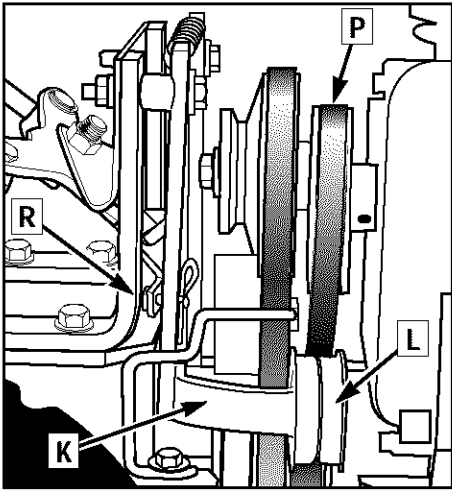

Figure 5-13
2. Stand at the front of the tiller and use your left hand to push the reverse idler arm (K, Figure 5-13) inward as far as possible (the reverse idler pulley [L] is attached to the reverse idler arm).
3. The reverse idler pulley (L, Figure 5-13) regulates the tension that is applied to the reverse drive belt (P). The following adjustment will allow the reverse idler pulley to apply more tension to a loose belt.
5. Slip the reverse belt (P, Figure 5-13) off the engine-driven reverse (upper) pulley.
6. On the **right** side of the unit (as viewed from operator's position), remove the hairpin cotter from the clevis pin (R, Figure 5-13) that connects the reverse idler arm (K) to the reverse adjustable link. Push inward on the reverse idler arm (K) and remove the clevis pin (R).
8. Reinstall the reverse belt (P, Figure 5-13) on the reverse (upper) pulley, making sure the belt is located to the inside of the reverse idler pulley (L, Figure 5-13).